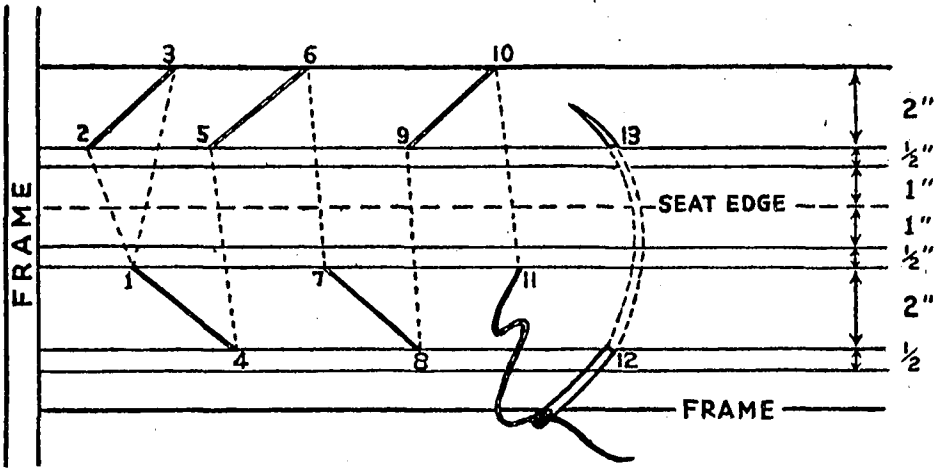

Fig. 14. Lines spaced above and below the front seat edge show where stitches are taken to make padded edges.
**The Front Roll on the Seat Section:** If the original front seat spring-edge roll is in good condition, plan to use it. If not, make a new one following the procedure in figures 14, 15, and 16.
tect the edge of the seat, finish it with long stitches to hold the top and front firmly in place. To plan the place for the stitches, pinch up the edge with your fingers, then put a chalk or pencil mark at these lines. Usually they come about 1 inch above and below the seat edge. Draw two lines on top to show where to take the long stitches (figure 14). The first of these can be  $\frac{1}{2}$  inch behind the line for the edge roll; the second is placed back from the edge 2 inches. Then draw two lines across the front of the padding: the first  $\frac{1}{2}$  inch below the edge roll stitch; the second as low as stitches can be taken (usually  $\frac{1}{2}$  inch above the seat frame).
Use a 6-inch straight needle with a long, single strand of mattress twine. Knot the twine, and begin stitching at the left-hand side as in figure 14. Insert the needle at 1, bring it out at 2, insert needle again at 3, and bring it out at 1. Tighten the twine. Then proceed: insert needle at 4, out at 5, insert at 6, and out at 7. Tighten the twine and insert needle at 8, repeating stitches across the seat so they are about  $1\frac{1}{2}$  inches apart.
1. **For a seat without a separate cushion**, the edge need not be stitched, but a firmer seat edge results if the stitched stuffed roll is made (figure 14). Follow either finish with a final padding of moss or hair and stitch it to the burlap. Cover this with upholsterer's cotton, then with muslin, and finish with outside cover.